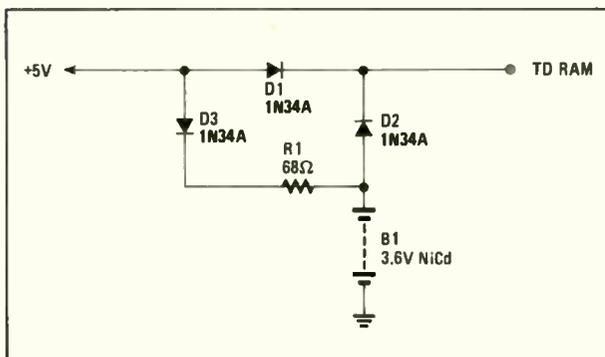

FIG. 3. A 68-OHM RESISTOR limits the charging current to 10 mA.
**FIG. 3—THE QUICK TEST does just what it claims: It tests the drive and compares the results against built-in standards. Note that the drive failed the radial-alignment test.**
All tests are selected from the main menu shown in Figure 2. The DDD provides several individual tests, but if you're in a hurry and want to do quick-and-dirty periodic checks, the DDD contains a "Quick Test" for speed, index-hole timing (you've never heard of that test?), radial alignment (or that one?), Azimuth rotation, and hysteresis. (See Fig. 3.)
In most cases the NiCd's can be charged right from the 5-volt line. The charging current, however, must be limited. That's easily accomplished by inserting a resistor between the 5-volt source and the battery, as shown in Fig. 3. The value of the resistor is selected so that the charging current satisfies the charging requirements of the battery, while staying within the limits of the power supply.